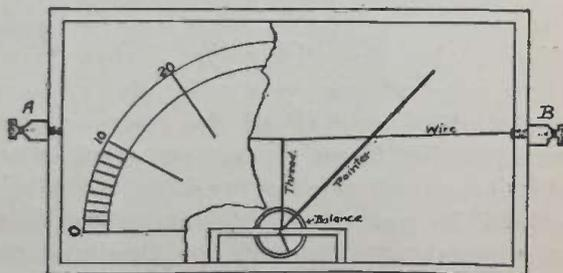

Fig. 2
If a lathe is not at hand for winding the sections of a coil, a sewing machine can be used as shown in Fig. 2. It is first necessary to attach a grooved pulley to the spokes of the fly wheel of the machine as shown. The winding device shown in Fig. 1 is clamped to the machine and a round belt used to connect the two grooved pulleys. The wire should be started in an even layer and held with suitable tension. To use a small motor for winding, a simple belt tightener should be made which can be controlled by the hands. This will serve to regulate the speed and also to stop the apparatus quickly when desired. The sections should be handled very carefully and the greatest pains taken to insure them against injury.
Those who enjoy sleeping with their windows open and yet do not like the idea of being rained in on may appreciate the little contrivance herewith illustrated. The sketch is self-explanatory but a word as to the way in which it operates will not be out of place. A battery (B) and sensitive relay (R) are connected up as shown with the solution tray (S), which is simply a small cigar box, paraffined on the inside to make water-tight, in which are fastened two copper plates or electrodes (C,C) (Fig. 2) and these connected with the circuit by means of binding posts; the plates should be about $\frac{1}{4}$ inch apart. The box is fastened on the window sill outside, where the first drops of rain will reach it, and a little common salt sprinkled over the copper plates and in between them.
- FIG. 2 -